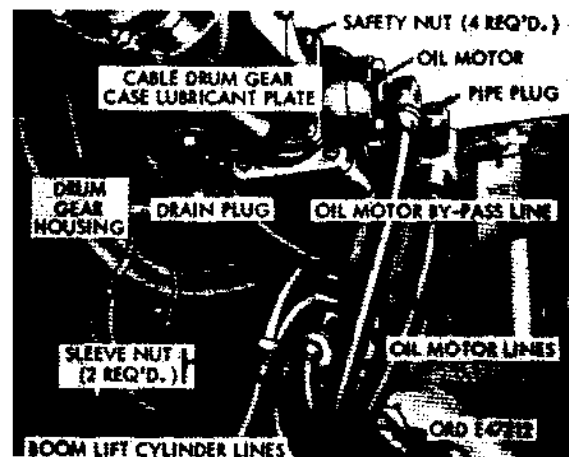

Figure 424. Disconnecting boom hoist hydraulic oil motor lines
- (2) Disconnect oil motor bypass line (fig. 424) at hoist oil motor. Loosen cap screw (fig. 401) securing hose clip to bracket, and remove oil motor bypass line from clip and bracket.
- (3) Using overhead hoisting equipment, raise the shipper and boom assembly to the extreme upward position.
- (5) Connect oil motor bypass line (fig. 424) to hoist oil motor.
- (1) Disconnect two boom lift cylinder lines (fig. 424) at sleeve nuts directly below boom hoist hydraulic oil motor.
- (2) Using overhead hoisting equipment, raise the boom and shipper assembly to the extreme upward position.
- (5) Lower boom and shipper assembly to the horizontal position, and remove overhead hoisting equipment.
- (6) Connect the two boom lift cylinder lines (fig. 424) at sleeve nuts directly below boom hoist hydraulic oil motor.
- (7) Lubricate upper lift cylinder pivot shaft. (Refer to LO 9-2920-211-12.)
- (3) Disconnect two oil motor lines (fig. 424) at sleeve nuts, and disconnect oil motor bypass line at oil motor.